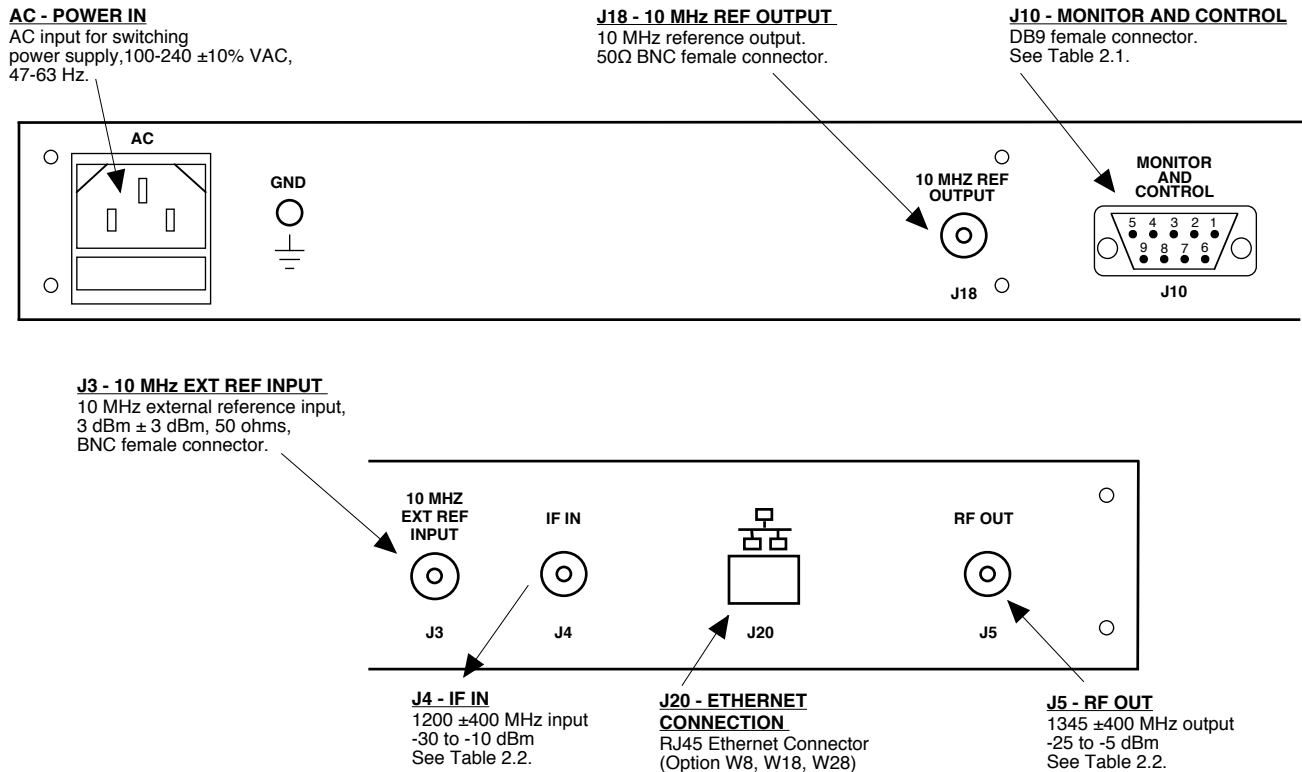

FIGURE 2.2 2083-1617 Rear Panel I/Os
2.2 Rear Panel Input/Output Signals - Figure 2.2 shows the input and output connectors on the rear panel.
1. Connect a -30 dBm to -10 dBm signal to IF IN, J4 (Figure 2.2)